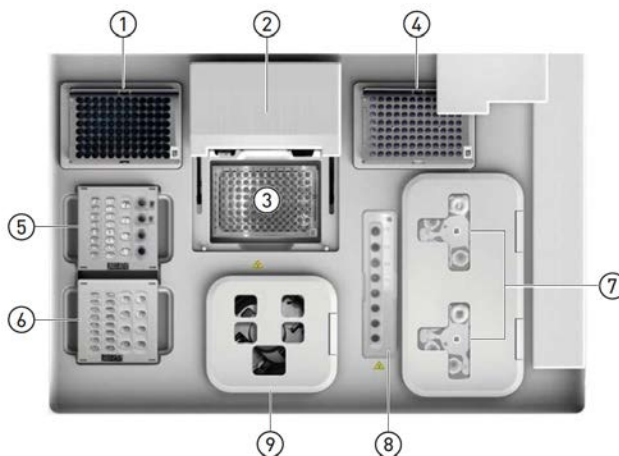

Figure 3. Illustration of the Interior of the Ion Chef Instrument
9.14.5.3. Unwrap a new tip cartridge and remove the cover to expose the tips and load it into the New Pipette Tip Position (#1 in Figure 3).
9.14.5.4. Load an empty pipette tip rack into the Waste Pipette Tip position (#4 in Figure 3).
9.14.5.5. Unwrap the PCR plate and load into the thermal cycler sample block (#3 in Figure 3).
9.14.5.6. Unwrap and slide a new frame foil seal underneath the automated heated cover (#2 in Figure 3).
9.14.6.2. Load the cartridge into the Reagents station (#5 in Figure 3) so that it snaps into place and is level on the deck.
9.14.6.5. Load the cartridge into the Solutions station (#6 in Figure 3) until it snaps into place and is level on the deck.
9.14.7.1. Open the hinged lid of the Recovery Centrifuges (#7 in Figure 3) and load six Recovery Tubes into each centrifuge.
- 9.14.7.4. Load the Enrichment Cartridge (#8 in Figure 3), then press down to ensure it is level with the instrument deck.
- 9.14.8.1. Load each sequencing chip into a centrifuge bucket (two detachable buckets inside centrifuge #9 in Figure 3), and then attach a Chip Adapter to the assembly.
- 9.16.1.3. Move the empty tip rack from New Pipette Tip Position (#1 in Figure 3) and place in the Waste Pipette Tip position (#4 in Figure 3).